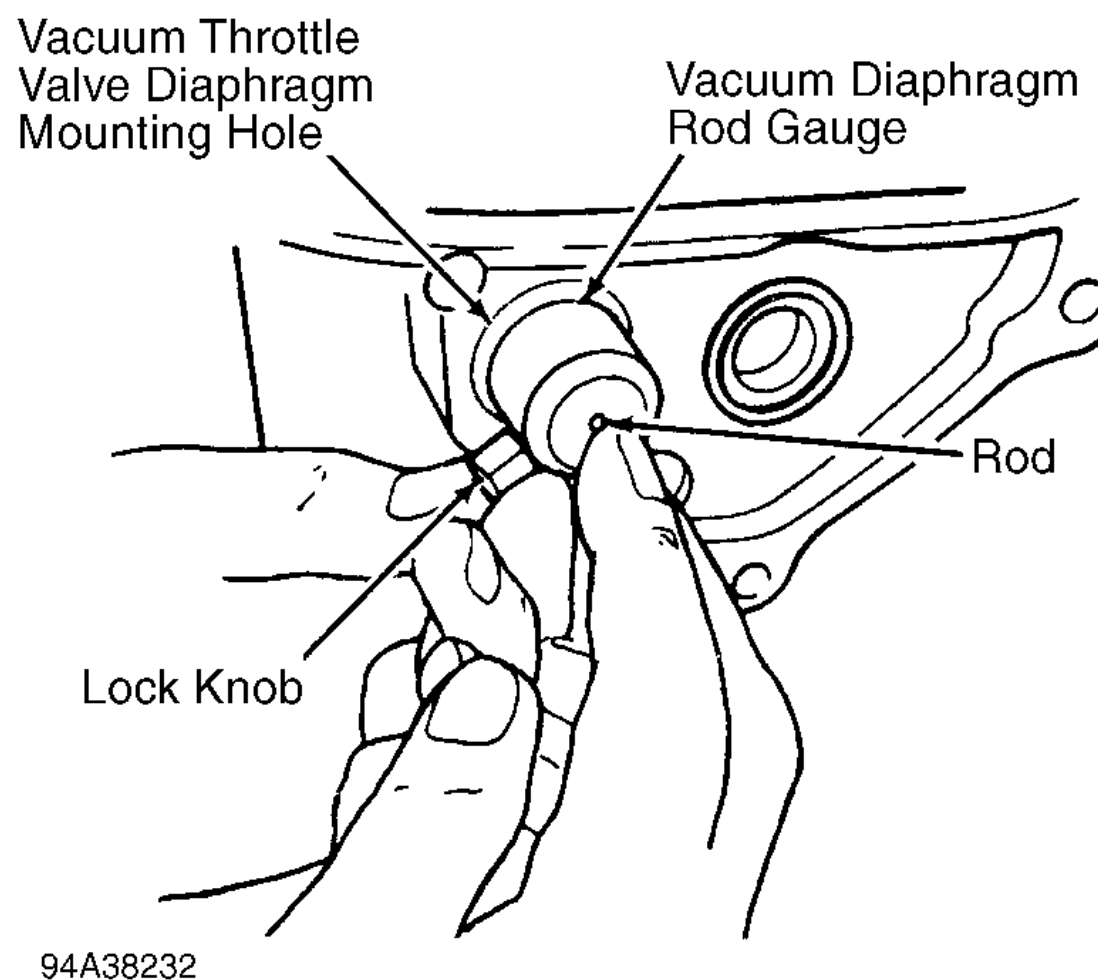

Fig. 3: Identifying Vacuum Diaphragm Rod Gauge
2. Place gauge rod through opening of gauge until rod bottoms out against vacuum throttle valve. Tighten lock knob on gauge and remove tool. Using depth gauge, measure distance from flat surface of gauge to end of rod. See **Fig. 3**. Select proper length throttle valve rod. See **THROTTLE VALVE ROD DIMENSION CHART**.